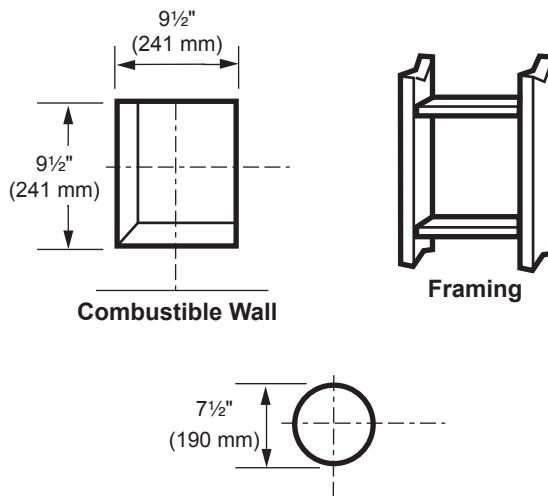

Figure 26 -
Combustible Exterior Walls: Cut a 9½"H x 9½"W (241 x 241 mm) square hole through the exterior wall frame. *Figure 26*
- The center of the hole should align with the center line of the horizontal rigid vent pipe end. Allow 1/4" minimum rise per foot. *Figure 26*